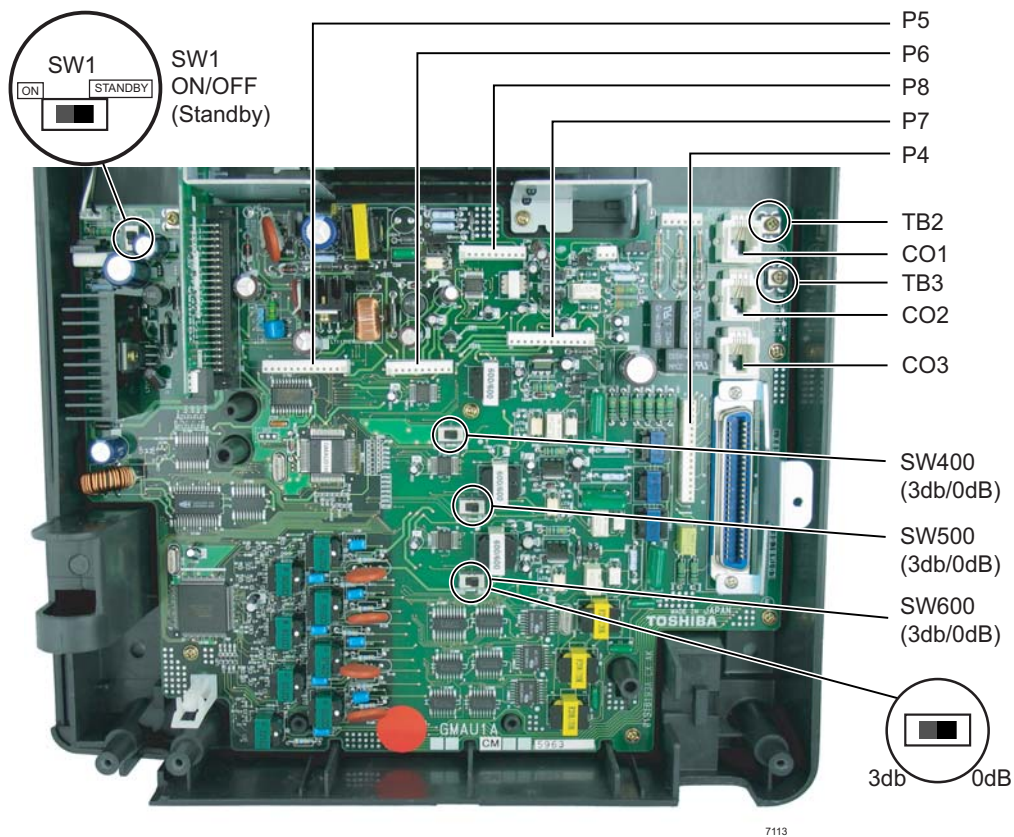

Figure 1-13 GMAU2 (R1 HW) PCB
1. The GMAU2 (shown in Figure 1-13) supports up to 3 CO lines with Caller ID (CLID). Each circuit has an associated pad switch. Set each circuit for 0dB or 3 dB pad.